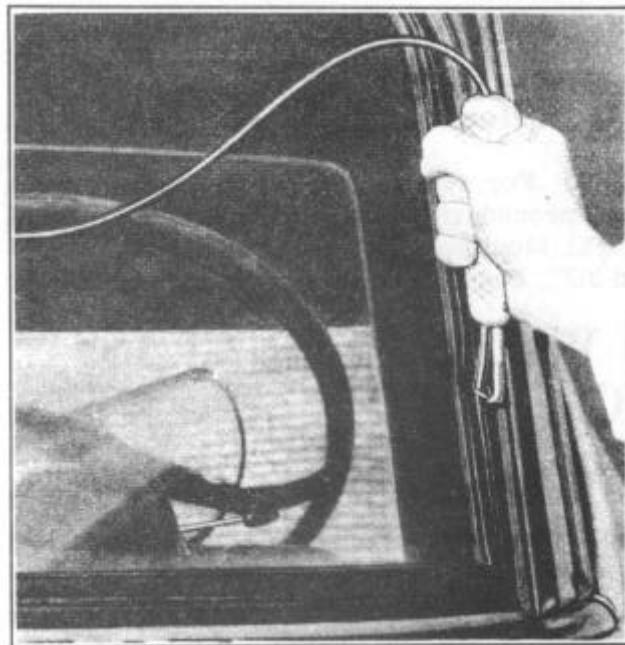

FIGURE 52
2. Insert the weatherstrip expander into the channel of the weatherstrip starting at either lower corner and threading the expander around the entire glass, using Tool J-2767, Figure 52.